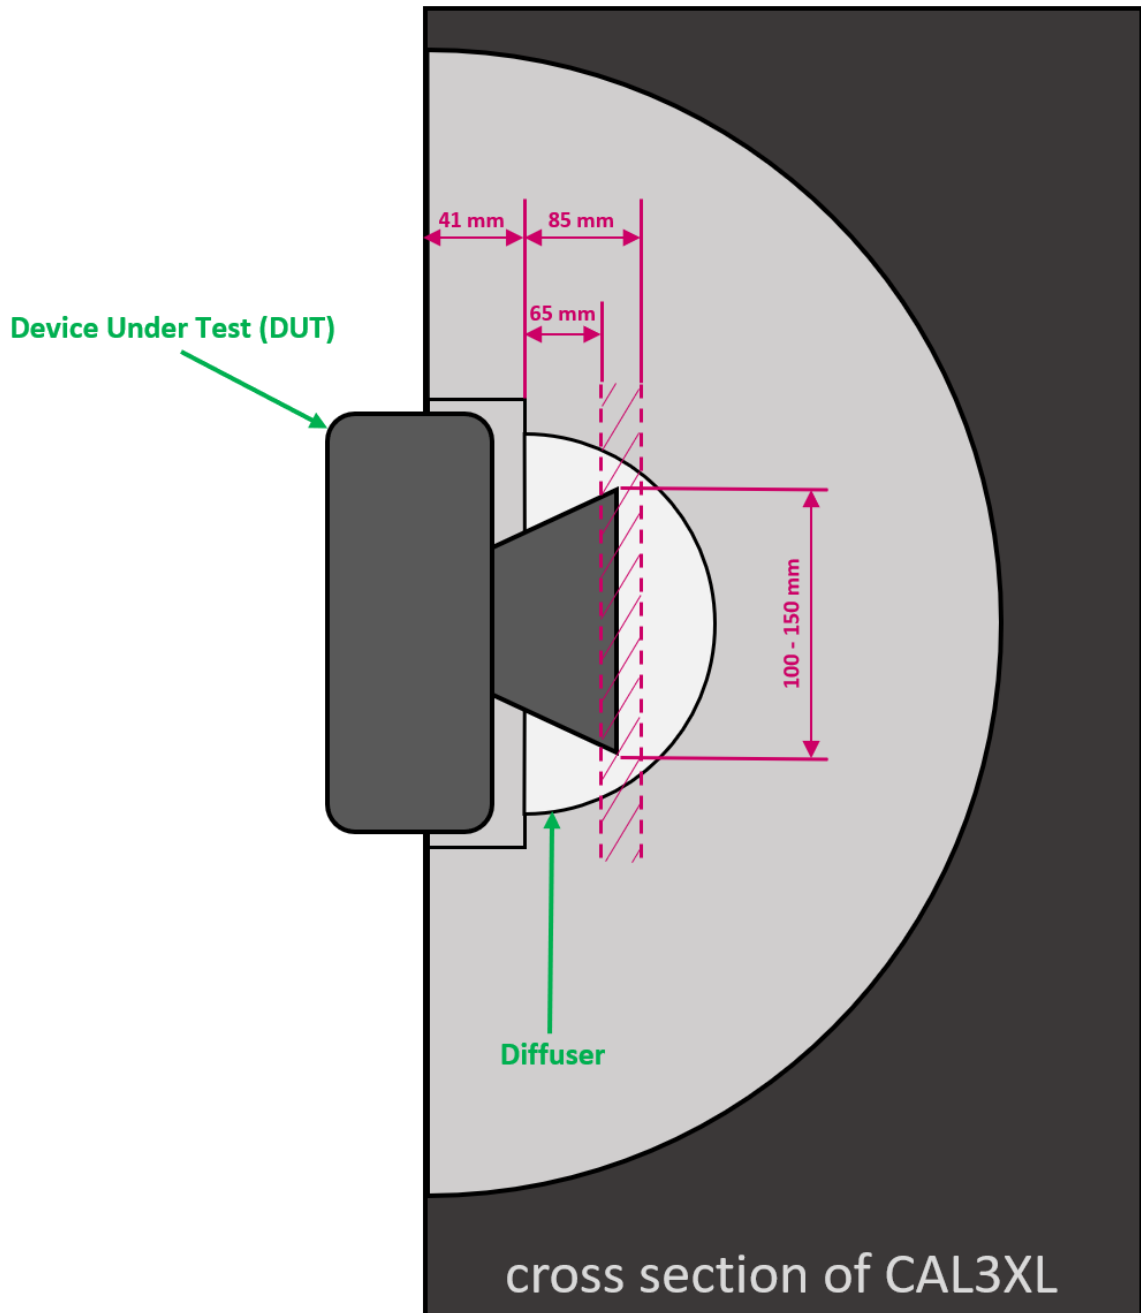

Figure 4: positioning of DUT in front of CAL3-XL
- lens depth **inside diffuser** (see Figure 4: positioning of DUT in front of CAL3-XL):